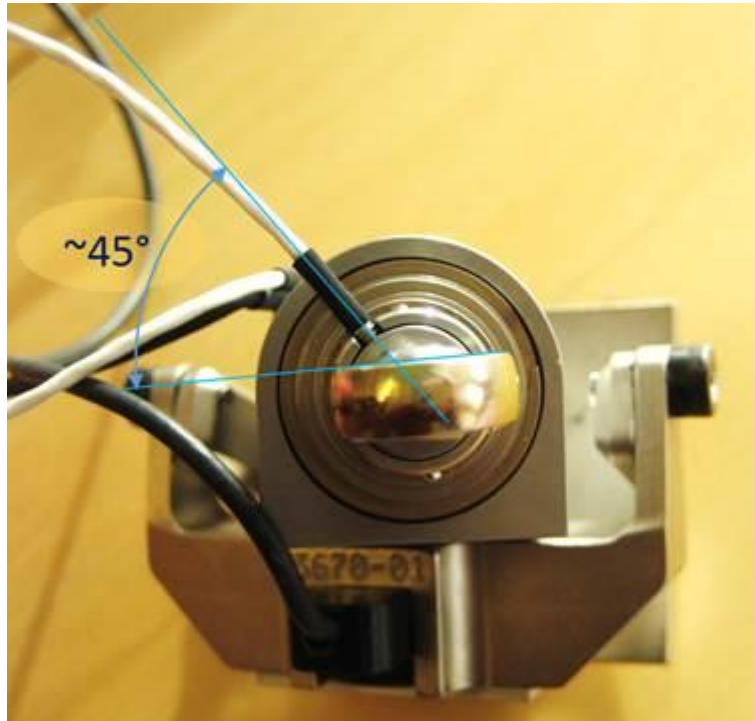

Figure 5-10 Rod End at angle of about 45°
3. Rotate the rod end backward to orient the rod end plane under an angle of about 45 degrees with the small end electrical wire exit plane, see Figure 5-10 (Note: ignore the big end wire exit location seen in the background);